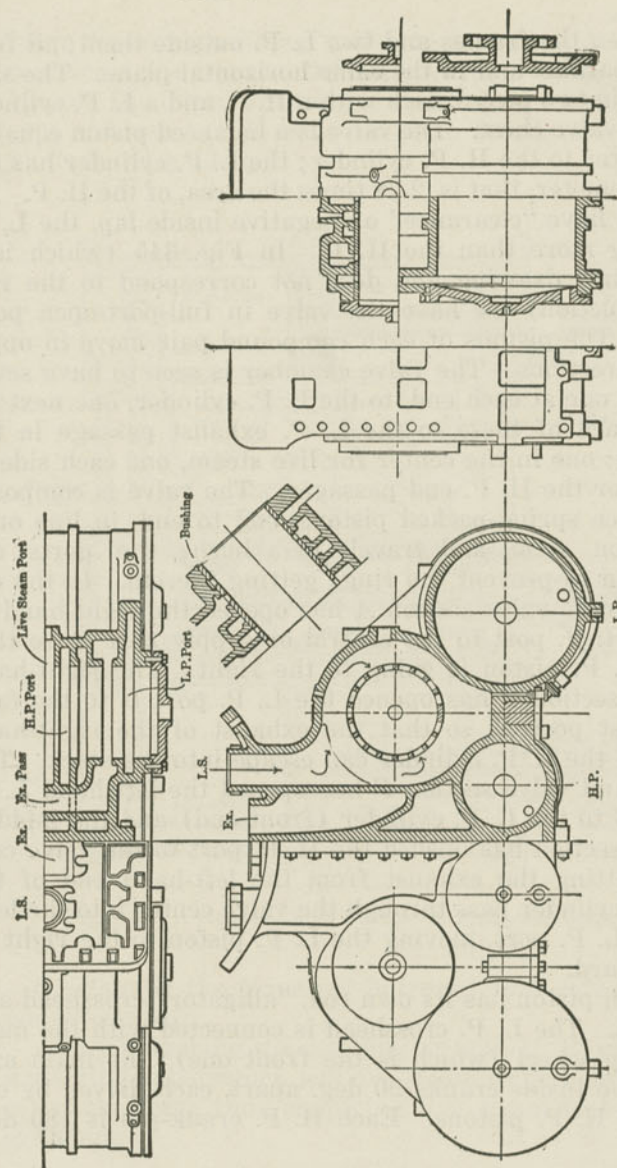

Fig. 344. Sections of Baldwin Balanced Compound.
*A. In this (see Figs. 344 and 345) there are two H. P.*